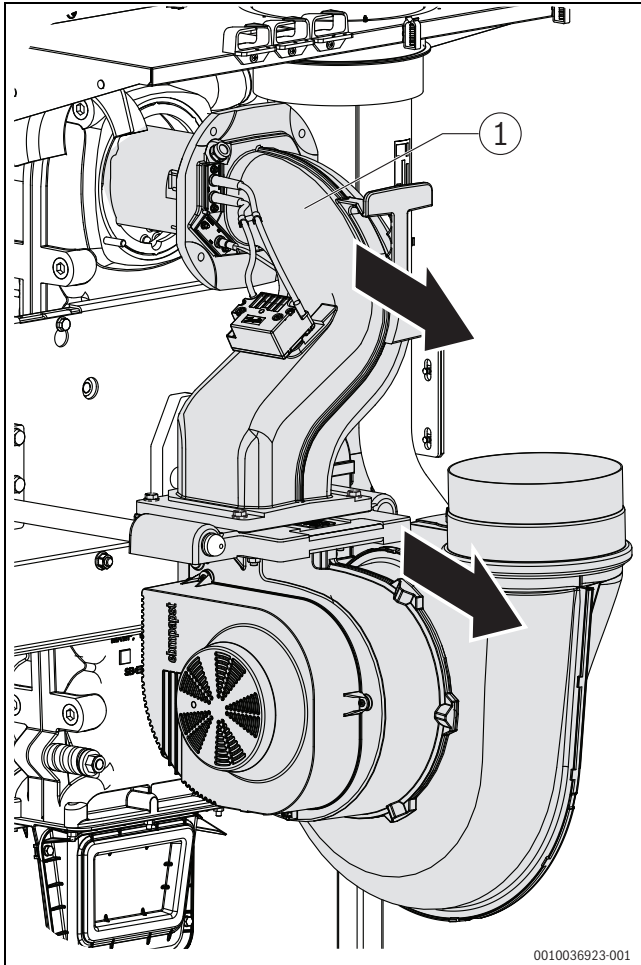

Fig. 52 Pull the burner back
- Pull the mixture manifold with burner rod and fan back to the end position (O-ring on the guide pin) (→Fig. 52).
- Remove the 4 Screws on the mixture manifold / slide (→Fig. 52).